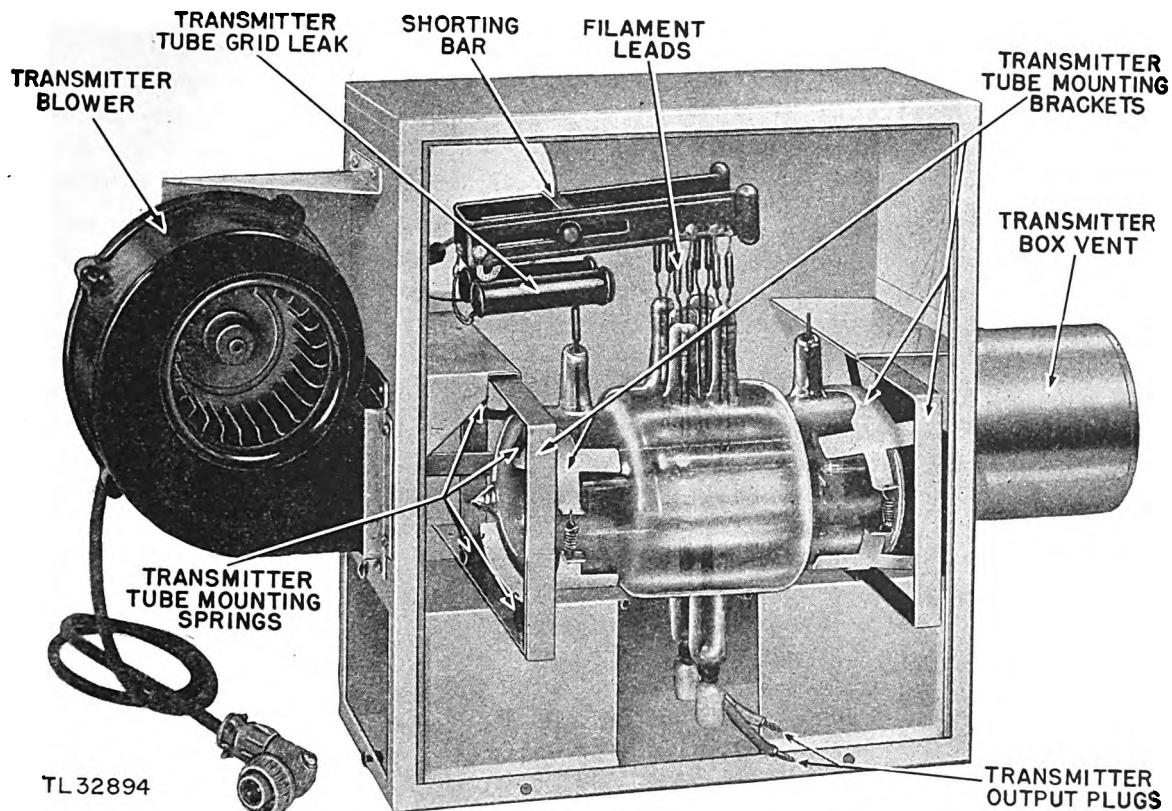

Figure 15. Transmitter tube assembly, cover removed.
c. The transmitter tube (fig. 15), a specially designed, high-frequency, oscillator tube, has its output connected to a stub-supported, coaxial transmission line equipped with stub tuners (fig. 11). A T-R box and anti T-R spark gap prevent transmitted energy from entering the receiver and reflected energy from being dissipated in the transmitter. A rotary joint in the coaxial transmission line makes possible the rotation of the half-wave length, dipole antenna used as the radiator. A quarter-wave transformer matches the impedance of the transmission line to that of the antenna.
a. The transmitter tube is a special push-pull dual triode oscillator (figs. 15 and 16). Resonant lines inside the tube envelope function as tuned circuits. Two connections at zero r-f potential points on the resonant grid line are brought out of the envelope. One is used for returning the grid circuit to the filaments through the self-biasing resistor mounted underneath the tuned filament line. The other is not used. The plate connections are brought out of the envelope and fed into the transmitter coupler. The frequency of oscillation may be changed by adjusting the shorting bar on the filament line. Shortening the line will increase the output frequency; increasing the length of line will decrease the output frequency.